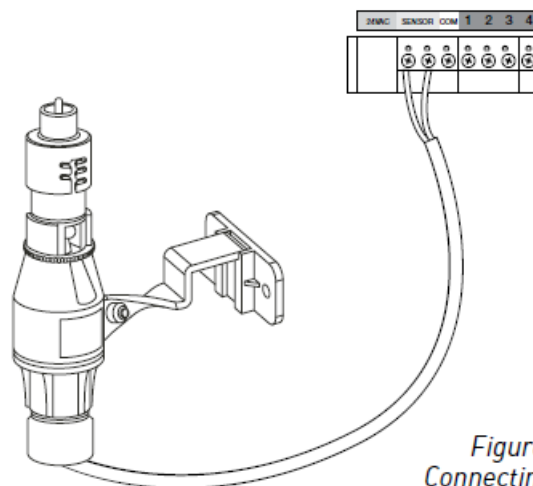

Figure 6:
- Connect the rain sensor wires to the wiring terminal ports (yellow in color) labeled “Sensor” (see figure 6).